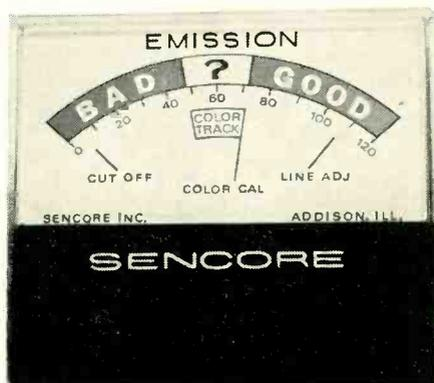

Fig. 3—Central portion of meter is calibrated to read out maximum permissible tracking variation, to predict ability to obtain proper highlights and gray scale.
6. As a sound-level or "applause" meter. (Fig. 3-d.)
2. Adjust the COLOR TRACKING control so the meter needle falls on the COLOR CAL line as shown in Fig. 3.